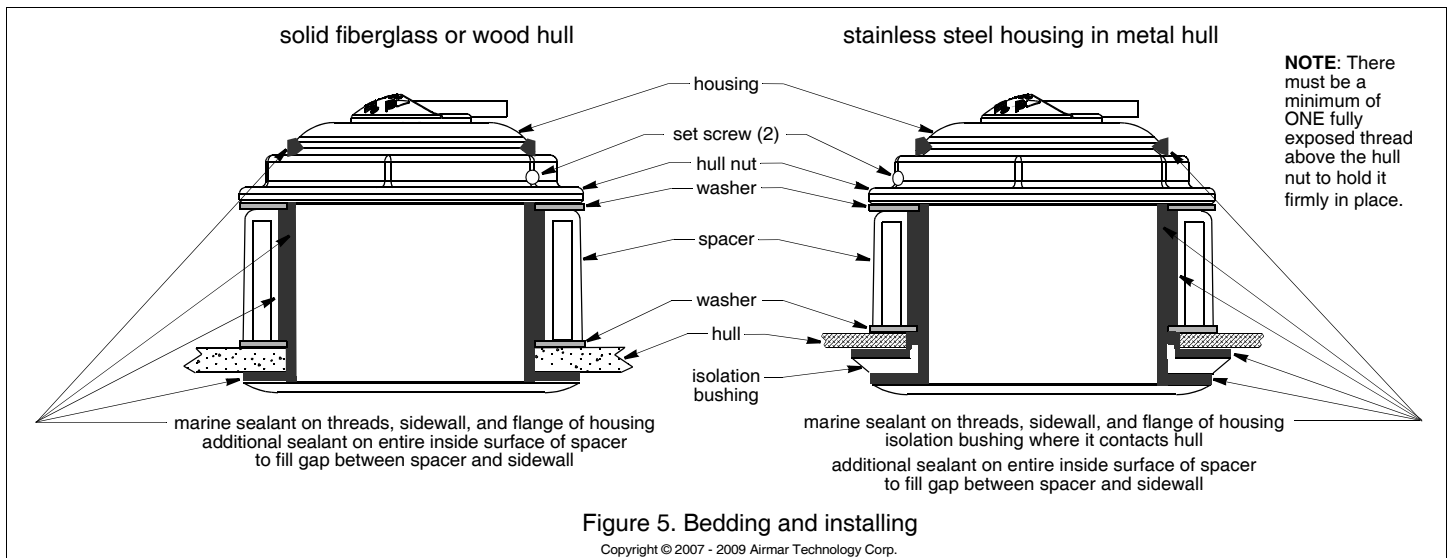
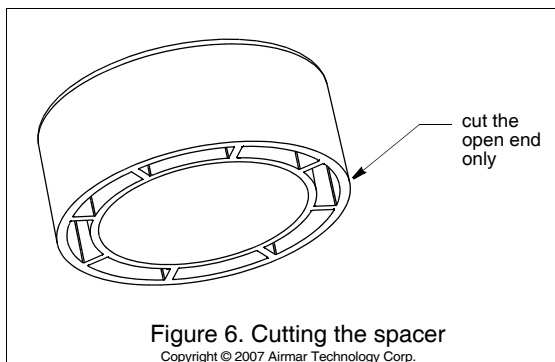

Figure 5. Bedding and installing
Figure 6. Cutting the spacer
4. Dry fit the transducer to determine if the spacer must be cut. From outside the hull, push the housing through the mounting hole (see Figure 5). From inside, slide one of the washers onto the housing. Slide the spacer onto the housing with the open end facing the hull. Add the remaining washer. *Be sure a minimum of **THREE** threads are showing on the housing above the washer.* If not, cut the spacer to make it shorter. When cutting the spacer, *be sure to cut the open end* (see Figure 6).
1. Apply a 4 mm (1/8") thick layer of marine sealant to the flange, sidewall, and threads of the housing (see Figure 5). The sealant must extend 12 mm (1/2") higher than the combined thickness of the hull, spacer, and hull nut. This will ensure there is marine sealant in the threads to seal the hull and to hold the hull nut securely in place.
2. From inside the hull, slide one of the washers onto the housing (see Figure 5). Slide the spacer onto the housing until the open end rests against the washer. Add the remaining washer. **Be sure a minimum of THREE threads are showing on the housing above the washer.** If not, make the spacer shorter by cutting the *open end* (see Figure 6).